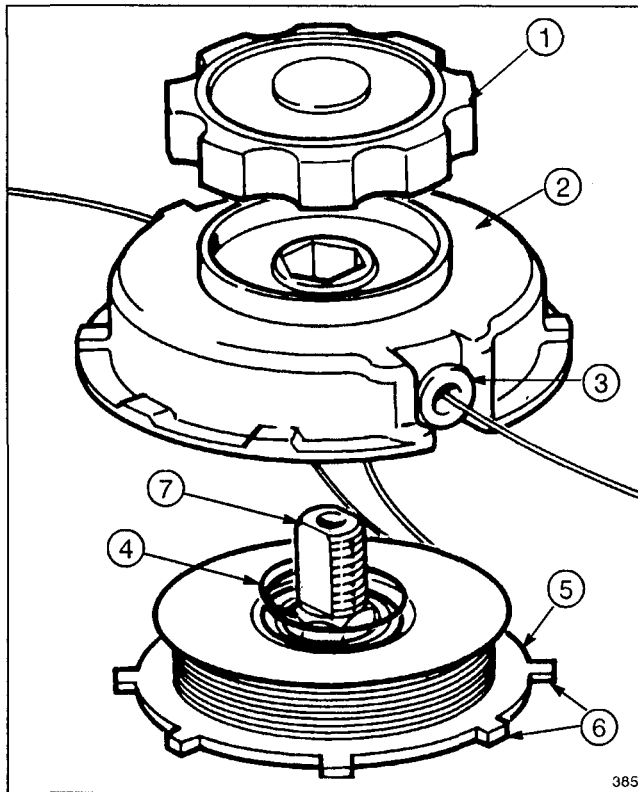

Figure 11
1. Loosen spool knob until it can be removed (Fig. 11).
- B. Insert end of line into spool line retainer. Pull line thru so equal amounts of line are on each end (Fig. 11).